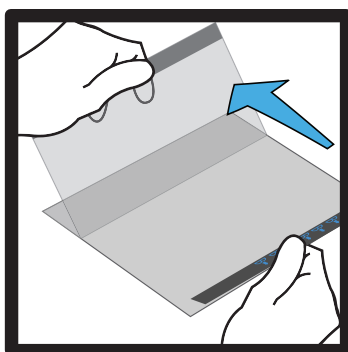
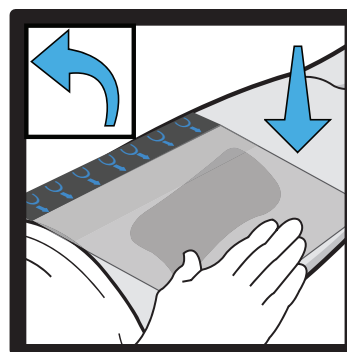
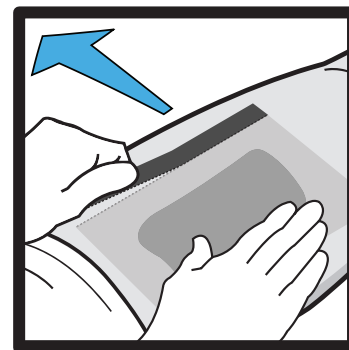

Figure 5
Figure 6
Figure 9
9. Remove the drape's release liner starting with tab A (**Figure 5**). Invert and place over the Cardinal Health™ NPWT foam dressing and peri-wound (**Figure 6**) and continue removing the contact layer with tabs B and C (**Figures 7-8**). Remove the remaining perforated tab (**Figure 9**). Gently press drape material down around the wound site and over the Cardinal Health™ NPWT foam dressing to ensure dressing is properly sealed.